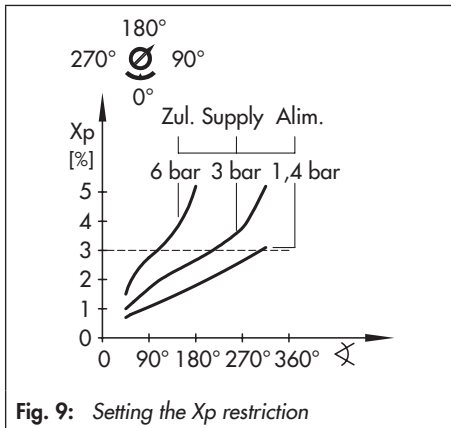

Fig. 9: Setting the Xp restriction
On setting the Xp restriction, observe the relationship with the supply pressure as indicated in Fig. 9. The preset value of Xp should be approximately 3 %.
- ➔ The adjustment range of the Xp restriction is restricted by the pointer and stop to one turn (Fig. 9). Do not remove the pointer.